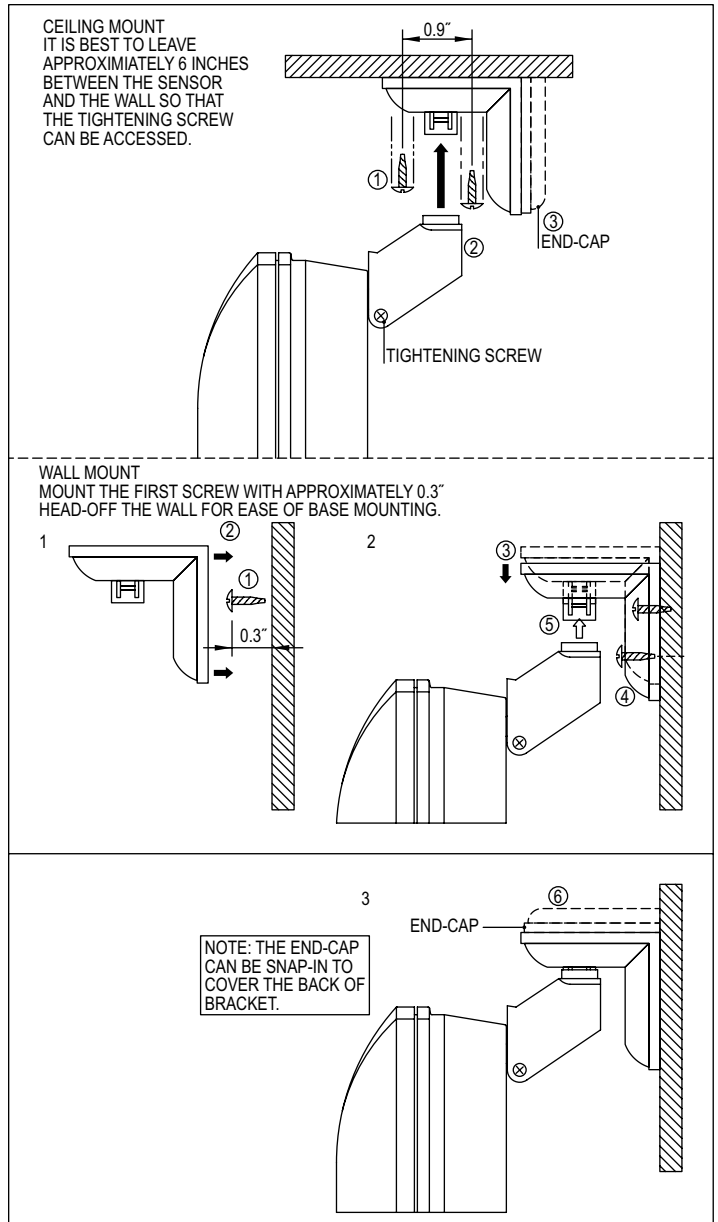

Figure 2: Mounting the sensor
- Screw the base of the mounting bracket to the desired position on the wall as shown in **Figure 2**.